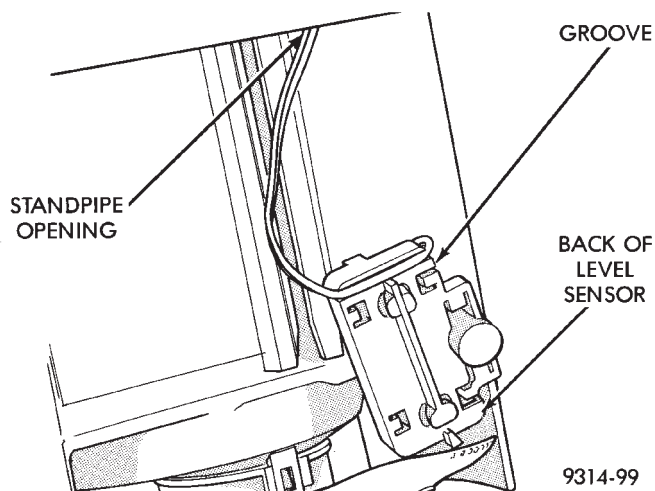

Fig. 15 Level Sensor Installation
(1) Insert level sensor wires in bottom of standpipe.
(2) Wrap wires into groove in back of level sensor (Fig. 15).